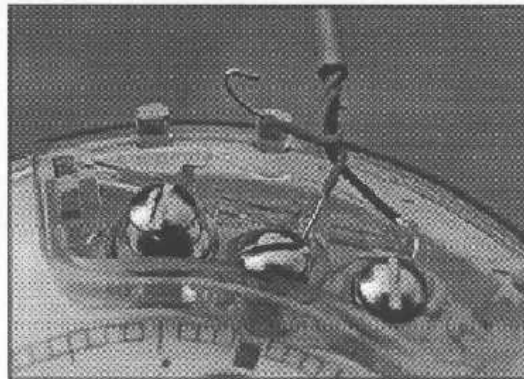

Figure 2-1. Wiring a Schlumberger Encoder Register
- 4 Connect one wire to each terminal screw per the manufacturer's instructions. See Figure 2.1 and Figure 2.2.